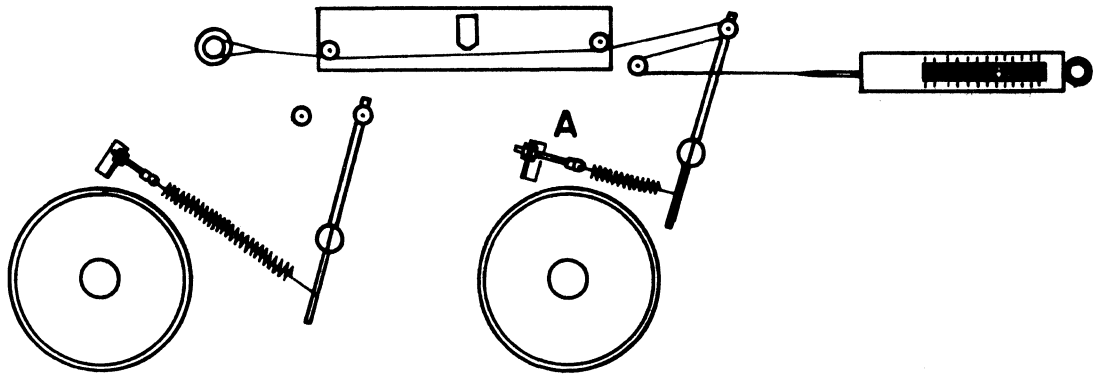

Figure 6-3. Supply Tension Spring Measurement
With the trim removed from the deck, thread a loop of tape as shown in Figure 6-3. Using a force gauge, measure the force required to pull the tension arm off its backstop and slowly through its stroke. The force required should not vary by more than a total of 0.3 ounce as the motion of the arm is slowly reversed at any part of the stroke. Adjust the spring tension screw (A) until the average force (as measured) is 8 ounces. Tighten the lock nuts.